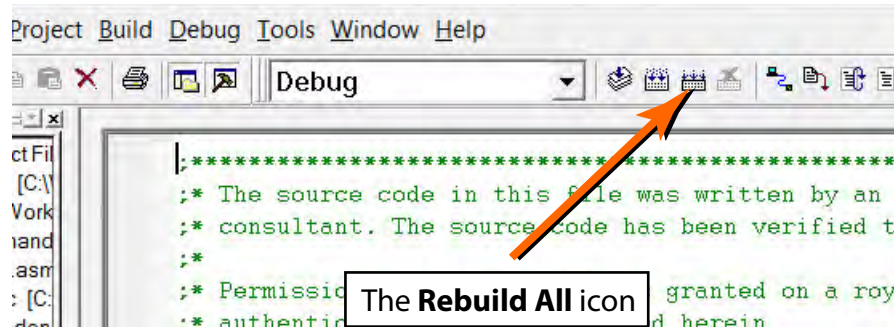

Figure 7. The Rebuild All Icon in ZDSII
5. Click the **Rebuild All** toolbar icon (indicated in Figure 7). When the build completes, a Build Succeeded message will appear.
5. Click the **Rebuild All** toolbar icon (seen in Figure 7). When the build completes, a Build Succeeded message will appear.